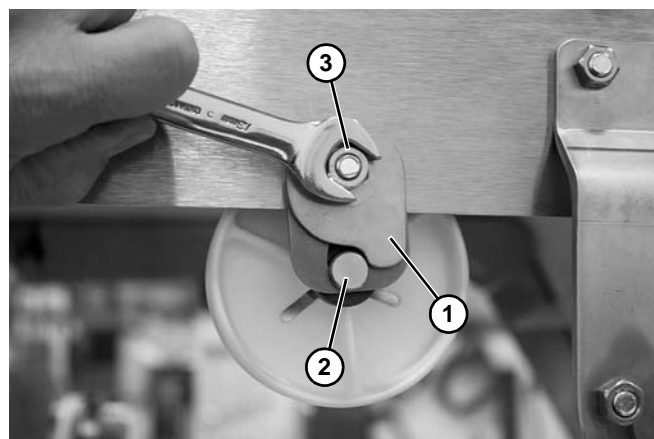

Figure 31
6. Rotate return clip (**Figure 31, item 1**) down against shaft (**Figure 31, item 2**) on both sides of conveyor. Tighten nuts (**Figure 31, item 3**).